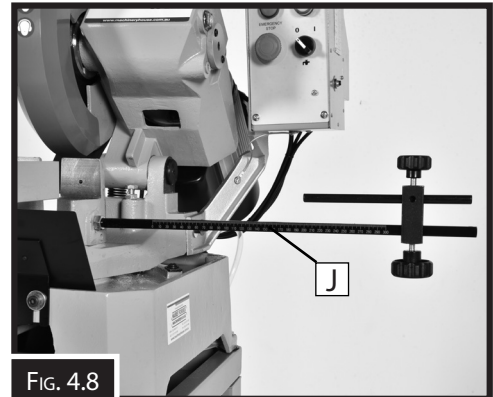

FIG. 4.8
Place a M10 washer on each of the two M10x25 hex head bolts and loosely screw the hex head bolts into the aligned slot (I) and holes. (Fig. 4.8)